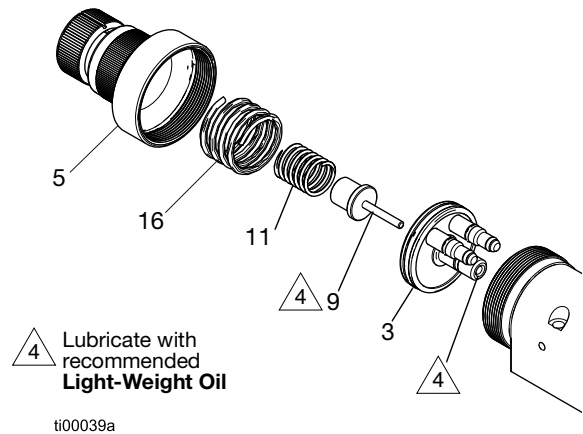

FIG. 37: Piston Assembly
2. Loosen piston cap (5) and remove the cap (5), springs (11 and 16), and spring guide (9).
3. Assemble the gun as shown in FIG. 37.